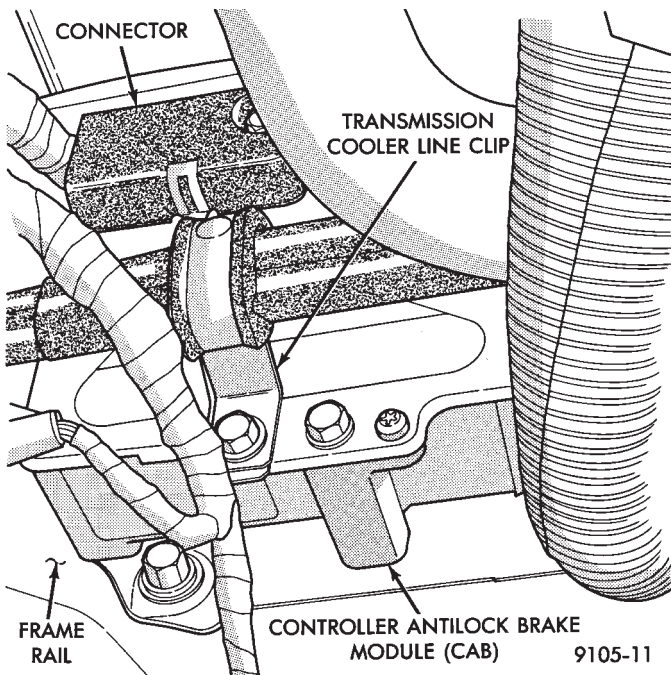

Fig. 19 Location Controller Anti-Lock Brake (CAB)
- (1) Turn vehicle ignition off.
- (2) Raise vehicle on hoist, (CAB) access for removal is from the underside of the vehicle (Fig. 19).
- (3) Remove transmission oil cooler line routing clip.
- (4) Disconnect the wiring harness 60 way connector from the Controller Anti-Lock Brake Module (CAB). **VERIFY THAT THE VEHICLE IGNITION IS OFF BEFORE REMOVING THE 60 WAY CONNECTOR.**
- (5) Remove the 3 (CAB) module to frame rail mounting bolts.
- (6) Remove the (CAB) module from the vehicle.